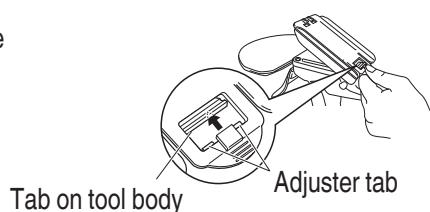

Fig. 10
- (1) Turn the tool over and slide the adjuster tab in the direction of the ribs on the tool. (**Fig. 10**)